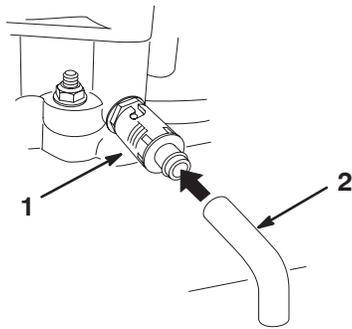

Figure 19
6. Place a pan below the drain hose. Rotate oil drain valve to allow oil to drain (Fig. 19).
8. Remove the drain hose (Fig. 19).